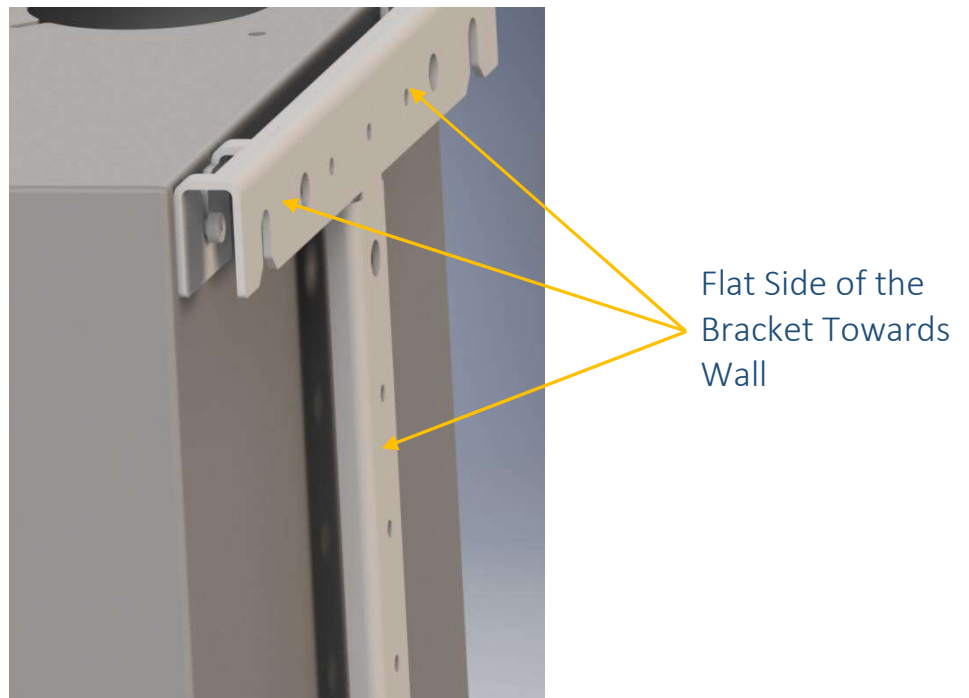

Fig 6
8. Hang the wall mount bracket on all four wing bolts with the flat side of the bracket towards the wall as shown in fig 6.
11. The easy mount bracket has four "V" slots that will self-guide the PA2400 into its correct position on the bracket as shown in fig 6.